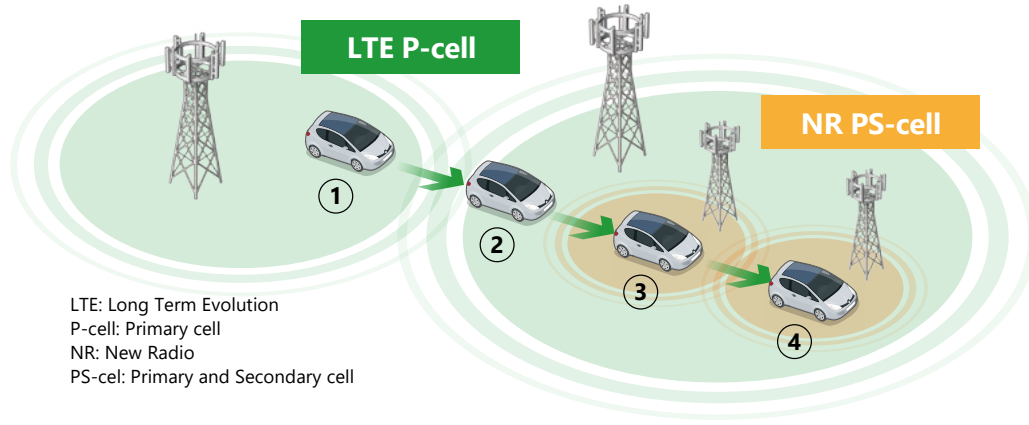

Figure 3 Handover from LTE Base Station to 5G Base Station
Figure 3 shows a vehicle moving and handing over from a 4G (LTE) base station to a 5G (NR) base station.